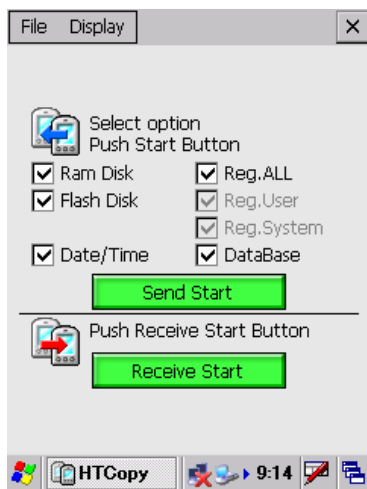

Fig. 3.110
1. Tap **Receive Start** button on each child terminal (if multiple terminals exist). See Fig. 3.110.